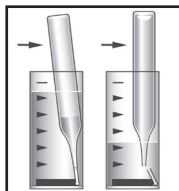

Figure 2
2. Place the ampoule, tip first, into the sample cup. Snap the tip. The ampoule will fill, leaving a bubble for mixing (fig. 2).